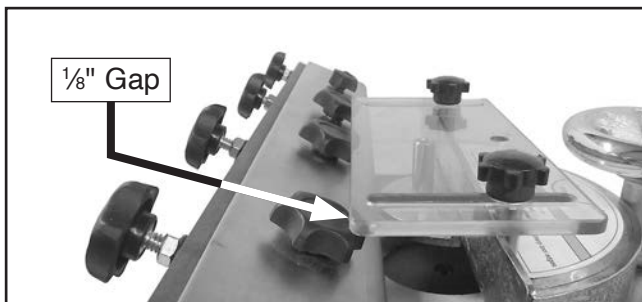

Figure 10. Adjustable guard spaced approximately $\frac{1}{8}$ " from knife clamp.
3. Loosen star knobs, position adjustable guard approximately $\frac{1}{8}$ " away from knife clamp or stationary clamp, then tighten star knobs to secure (see **Figure 10**).